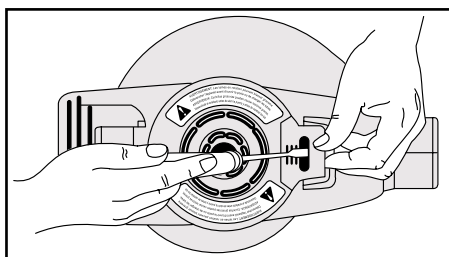

Fig. 5
1. With the unit off and unplugged, release the vacuum door by carefully inserting a flat head screwdriver into the latch opening (Fig. 5). Twist the tip of the screwdriver gently and pull open the door with your other hand (Figs. 5 and 6).